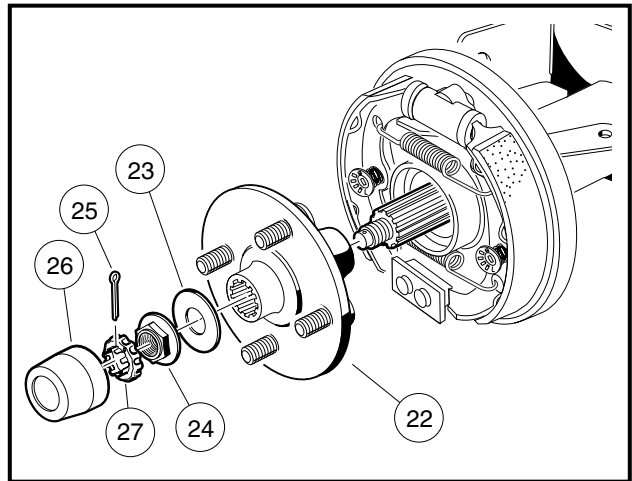
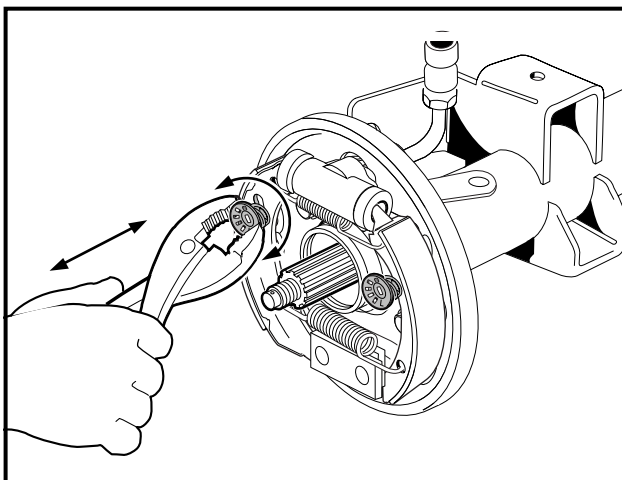

Figure 6-5 Rear Wheel Bolt Flange Assembly
Figure 6-6 Rotate Rear Spring Cups
**NOTE:** It is recommended that the wheel bolt flange (22) be removed prior to brake shoe removal (Figure 6-5, Page 6-9).
2. Remove rubber boot (26), large flat washer (23), cotter pin (25), and locking cap (27) (Figure 6-5, Page 6-9).
3. Remove the flanged nut (24) and large flat washer (23) from the axle end.
4. Slide the wheel bolt flange (22) off of the splined axle end.
5. Use pliers or a brake tool to rotate the cup washer and compression spring assembly 90° and remove the cup and spring from each brake shoe (Figure 6-6, Page 6-9).
2. Compress the spring with the cup washer (12) onto the pin of the adjuster assembly (3) (**Figure 6-19, Page 6-21**) and rotate 90° to secure the brake shoe (**Figure 6-6, Page 6-9**).
- 8.1. Slide wheel bolt flange (22) onto splined axle (**Figure 6-5, Page 6-9**).